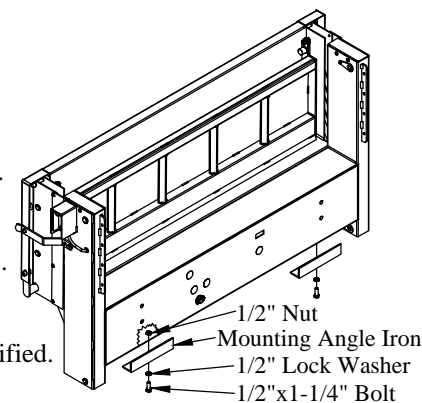

Figure 24: Mounting angle iron location.
1. **Install** the two (2) mounting angle irons to the bottom of the liftgate (Figure 24).